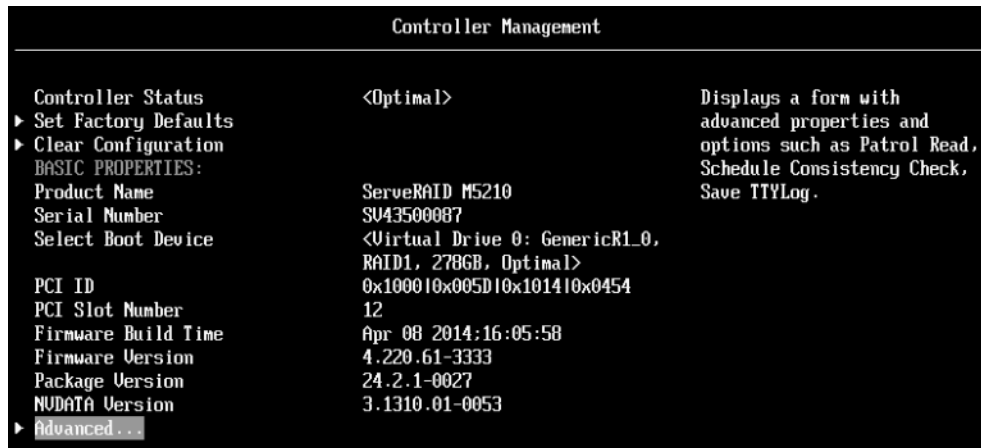

Figure 5-23 Controller Management Main Menu panel
3. Access the Controller Management panel, as shown in Figure 5-23.